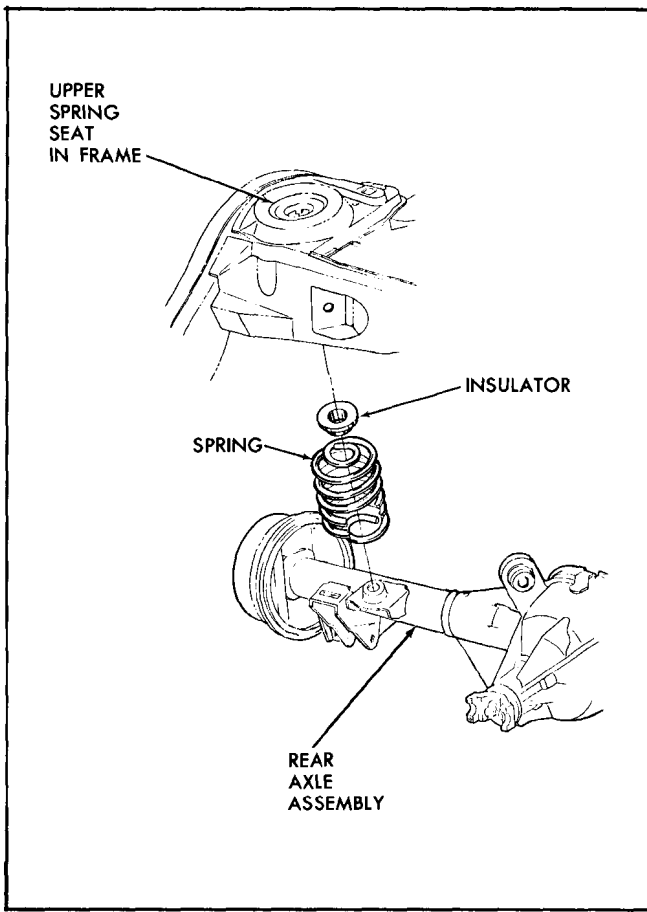

Fig. 4-21 Installation of Coil Spring
4. Remove nut and lock washer from shock absorber lower end stud and disconnect shock absorber from axle housing bracket (Fig. 4-21).